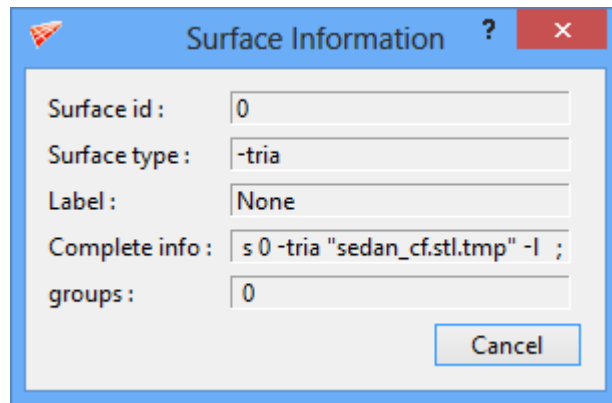

Figure 3.41: Surface information
- **Surface info** shows the information on surfaces such as id, type, label, position and group number to which it is grouped, as shown in figure 3.41.